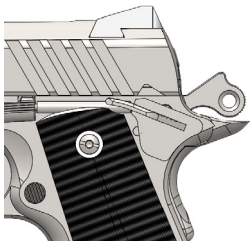

Figure 49
- Hold the pistol while depressing the grip safety and move the slide lock safety into the “FIRE” position – Figure 49. The hammer should not move when the slide lock safety is disengaged.